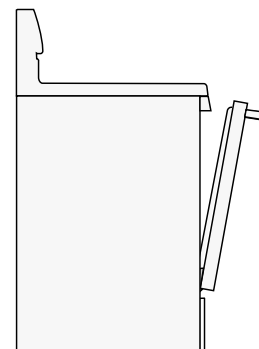

Fig. 2
6. **Leave oven door open** at broil stop position (Fig. 2).